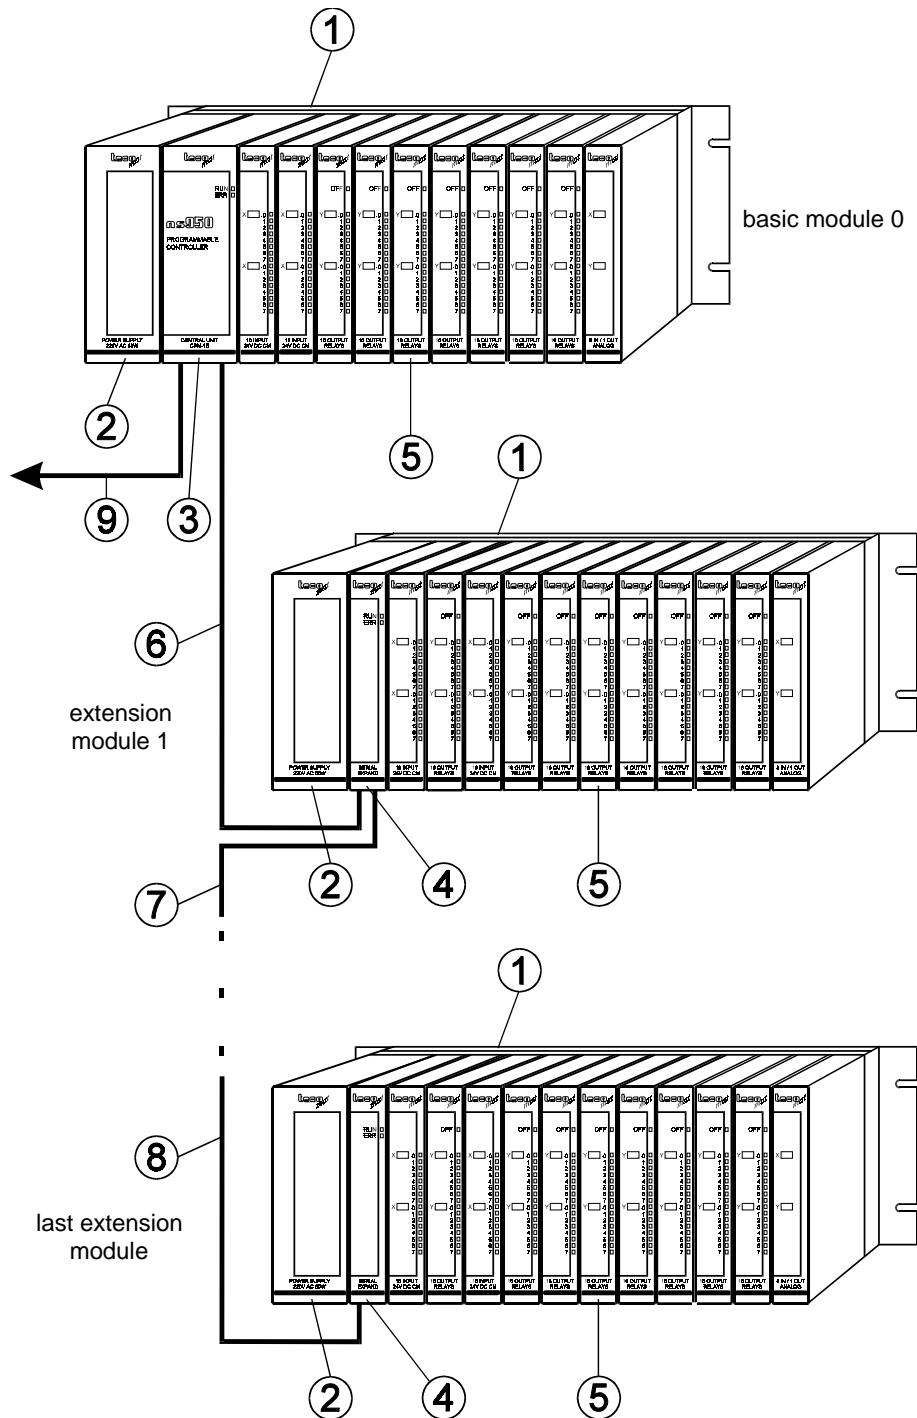

Fig.1.3 Setup of the PLC TECOMAT NS950 RAPID
The basic module PLC TECOMAT NS 950 RAPID is formed by the following setup /Fig. 1.3/:
- central unit CPM-1B (it takes up 2 positions on the frame - see the fig.1.3)